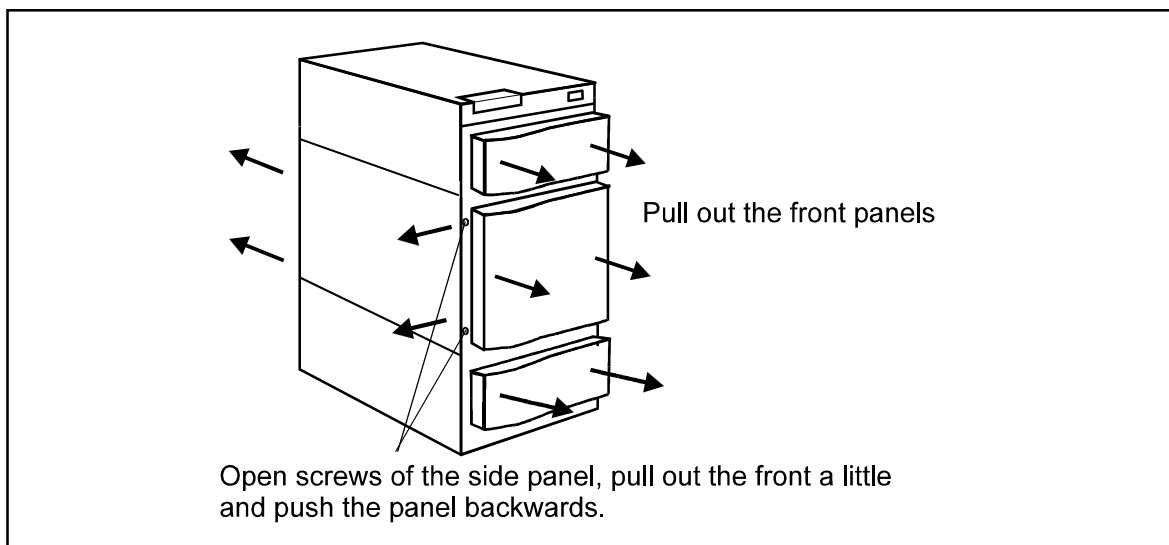

Fig. 1. Removing the front panels and opening the left side panel.
6. Remove the front panels and open the left side panel (Fig. 1).
- Remove the front panels of UPS. Fig. 1.
- Remove the front panels of the UPS. Fig. 1.
Remove the front panels of UPS. Fig. 1.